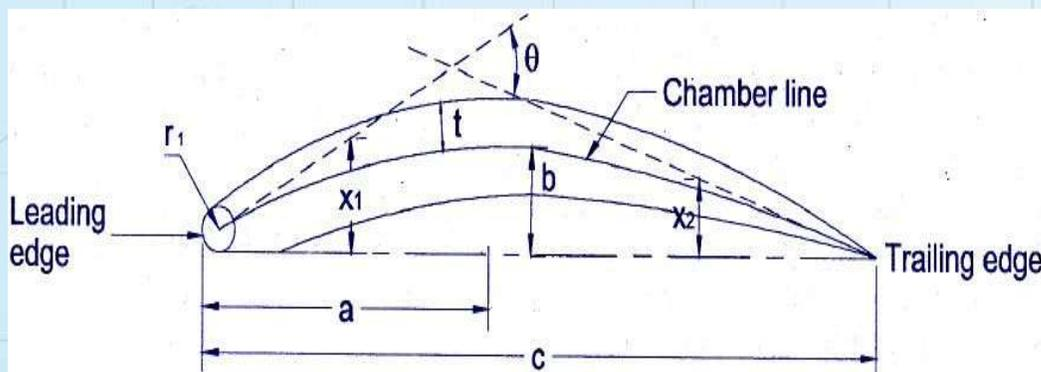

Fig.7.3 – Aerofoil blade section
- ▶ It has a thick rounded leading edge and a thin (sometimes sharp) trailing edge and its maximum thickness occurs somewhere near the midpoint of the chord a shown in Fig. 7.3.